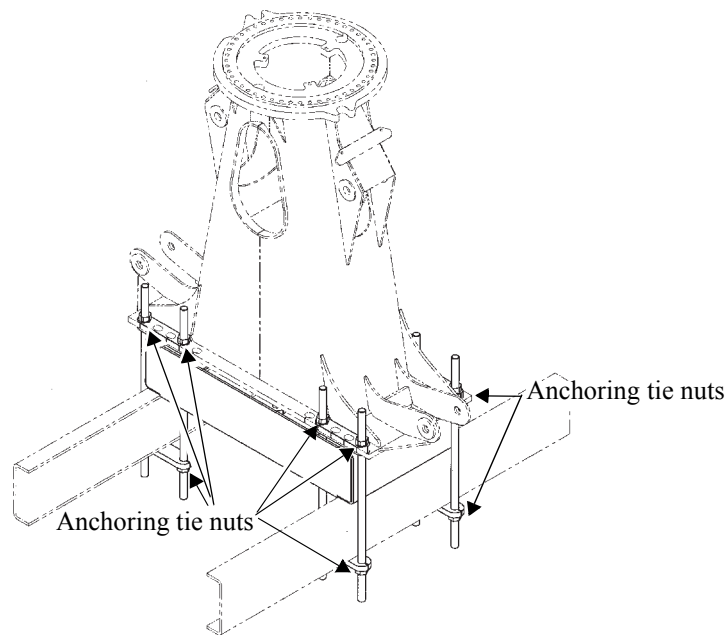

Figure 27 - Location of nuts to be torqued
- The anchoring ties where the loader is mounted onto the carrier (for their location, see *Figure 27* on page 77).
1. The anchoring tie nuts are located where the loader's frame is mounted onto the carrier. Check one nut from each of the eight pairs for a torque of **900 ft-lb (1220 N-m)** (see *Figure 27*, below).